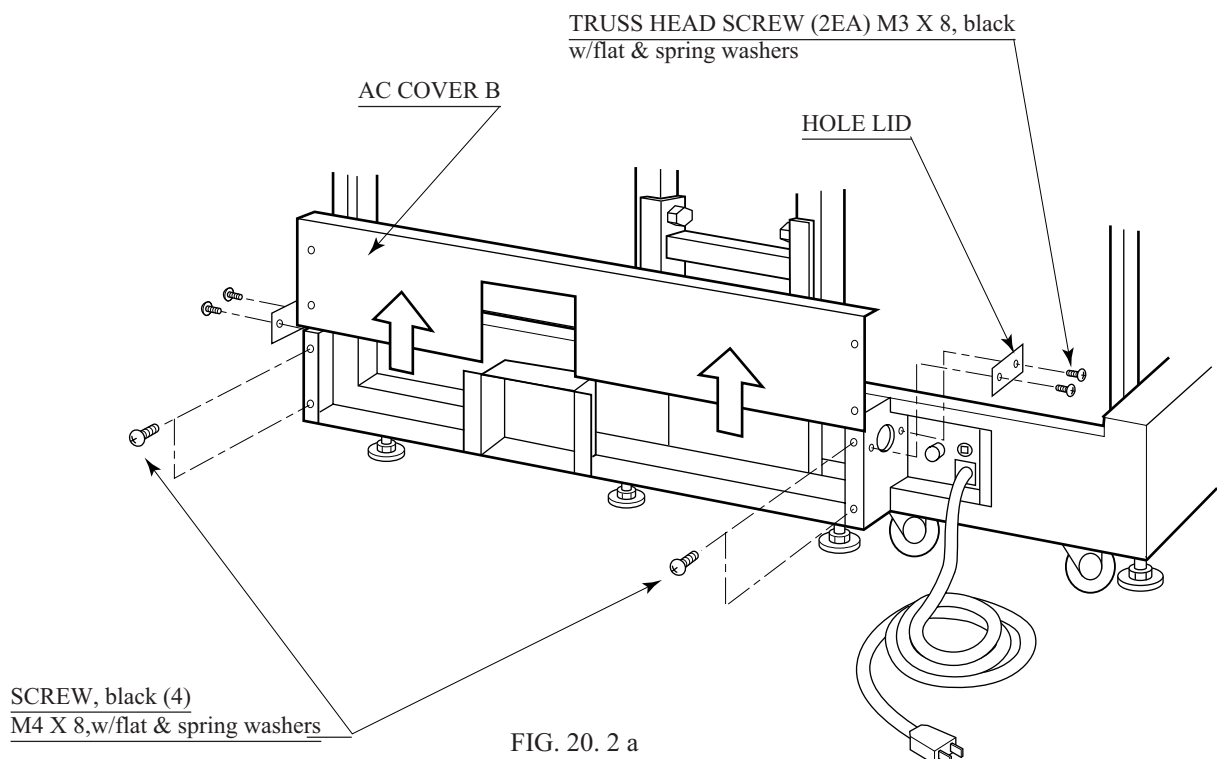

FIG. 20. 2 a
- ① Take off the 4 screws and remove AC COVER B (Fig. 20. 2 a).
- ② The HOLE LID is attached to the AC COVER HOLE into which the PROTECT TUBE is to be installed. By taking off 2 screws, remove the HOLE LID of the side where the PROTECT TUBE is to be installed.
- ③ Attach CONNECTOR 22 to the both ends of FLEX TUBE, and assemble the PROTECT TUBE. First, disassemble CONNECTOR 22 (Fig. 20. 2 b).
- ④ First pass the plastic nut through the flex tube. Otherwise, the following work can not be performed and therefore, be very careful of this point.